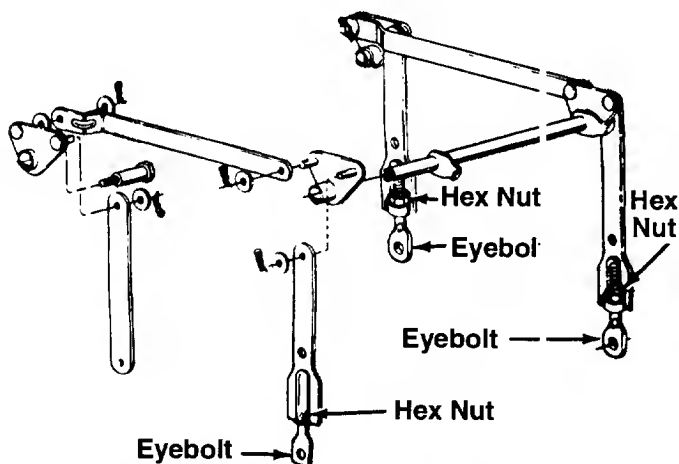

FIGURE 3.
1. Start 1/2" hex nuts on eyebolts provided. Insert the hex nuts and eyebolts into the adjustable lift links as shown in figure 3.